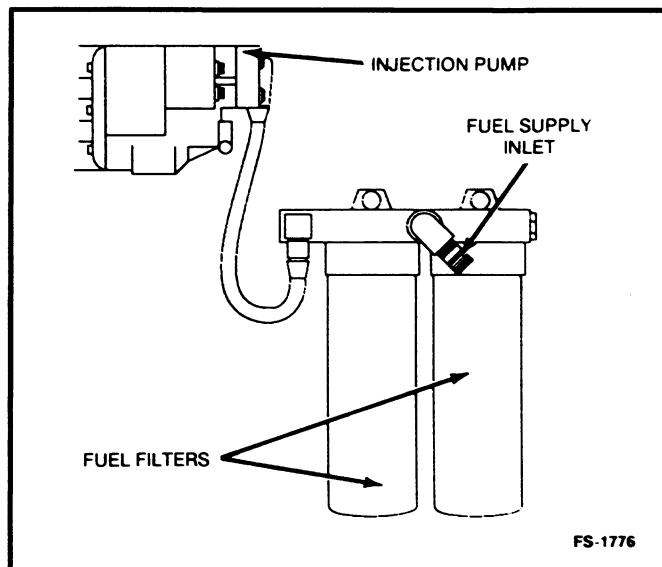

FIGURE 6-5. FUEL FILTERS
1. Remove each fuel filter and fill with clean fuel (see Figure 6-5).